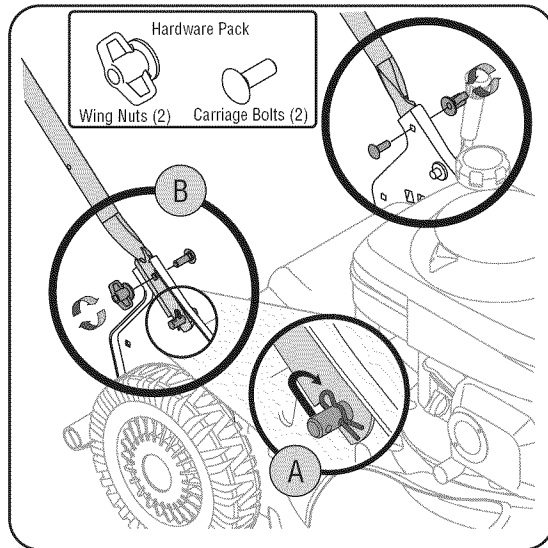

Figure 2
- a. Remove hairpin clip from this hole. Using a pair of pliers, insert hairpin clip into the other hole on the weld pin. Repeat on other side. See Figure 2.